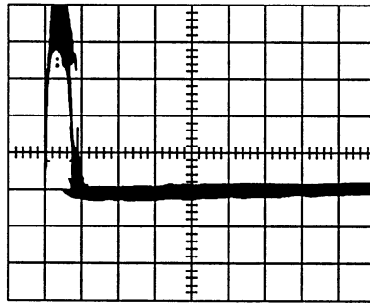

Figure 3.2a Correct Pole/Zero Compensation
1. The pole/zero trim is extremely critical for good high count-rate resolution performance. Adjust the radiation source count between 2 kcps and 25 kcps. While observing UNIPOLAR output on the scope, adjust the pole/zero so that the trailing edge of the unipolar pulse returns to the baseline with no over- or undershoots. Figure 3.2a shows the correct setting of the P/Z control, with Figure 3.2b and 3.2c showing under- and over-compensation for the preamplifier decay time-constant. Notice some small amplitude signals with long decay times in Figure 3.2a. These are due to charge trapping in the detector and cannot be corrected by the P/Z control.